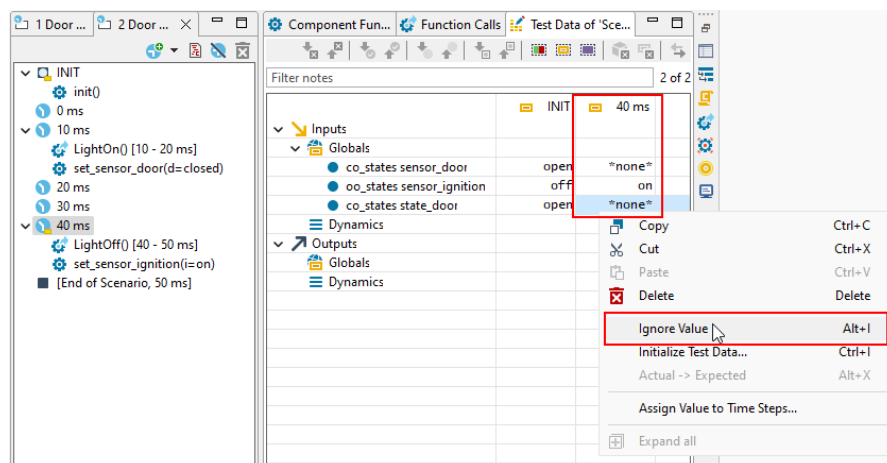

Figure 5.90: Setting values to “ignore”
- Select the 40 ms time step: The Test Data view will show a new column named “40 ms”. Set the value of the variable “`sensor_ignition`” to “on” and set the other values to be ignored (see figure 5.90).